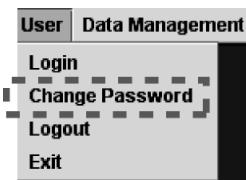

Figure 5-6. User menu (Change Password)
1. In the GeneXpert Dx System window, on the User menu, click **Change Password** (Figure 5-6).